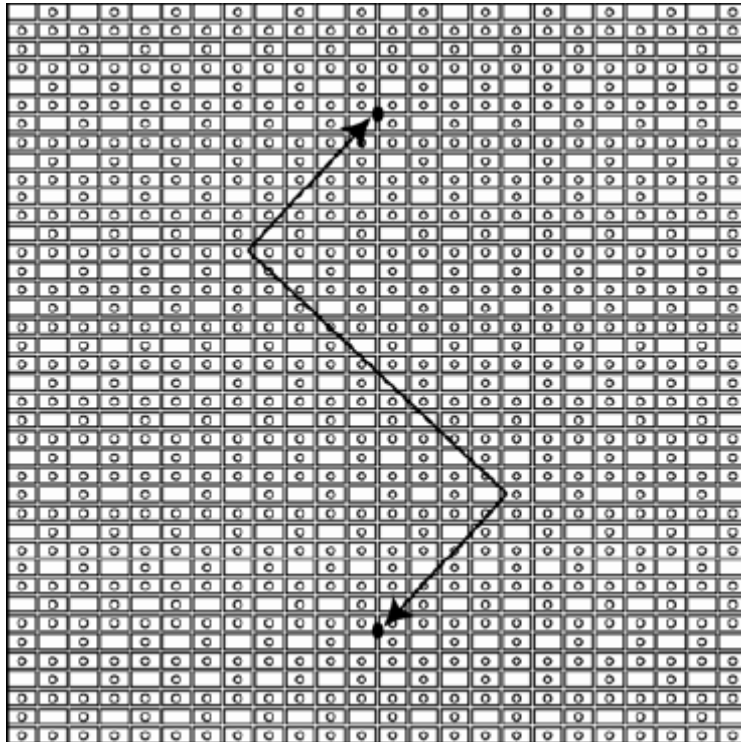

Figure 11: Latch Release
2. With a $1/8$ " hex head driver, turn the top and bottom latch releases approximately $1/2$ turn counter-clockwise. Refer to **Figure 11**.